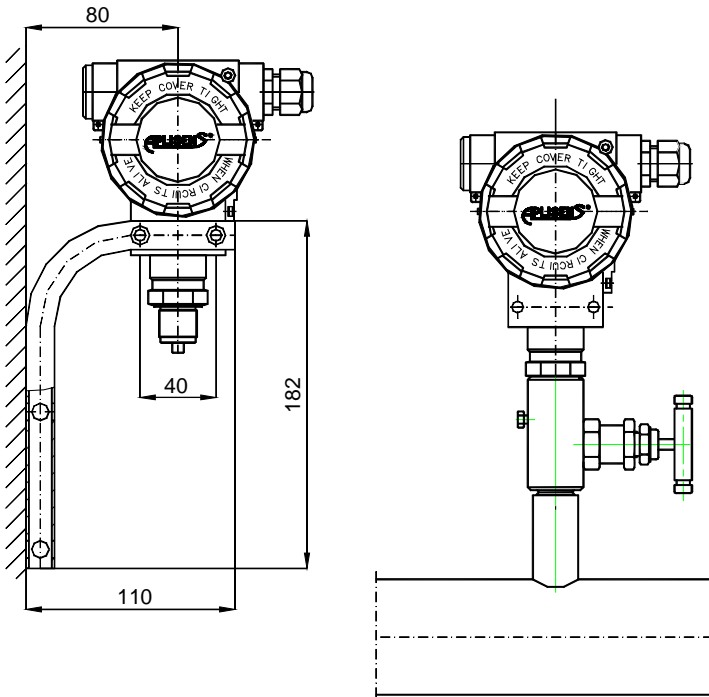

Fig.6. Mounting methods of APC-2000ALW Safety transmitter
7.1.3. Transmitter **APC-2000ALW Safety** can be installed using universal "AL holder" allowing installation, in any position, on supporting structure or vertical or horizontal tube $\varnothing 35 \dots \varnothing 65$ (Fig.6).